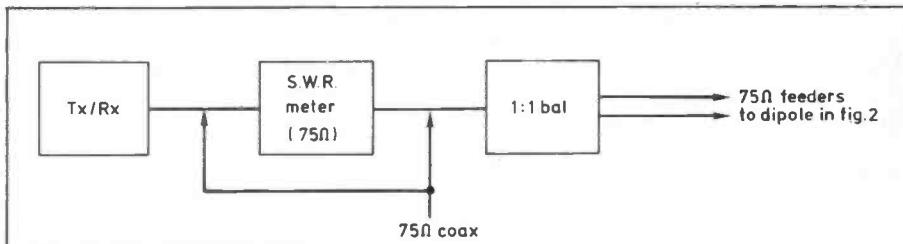

FIG. 4A. Set up for initial tuning
**Table 2** gives the dimensions to cut each dipole element, to start with a certain amount of pruning of each dipole will be needed, cutting an equal amount from either end of the dipole in question. Observations should be made of the VSWR at various frequencies across each band. Aim at getting the VSWR down to its lowest at your favourite part of the band ie. Phone or CW. The reason for the dipoles not working out at the exact, calculated lengths, is due to capacitance between the various dipoles and nearby objects. Always put the aerial back to its full height before attempting to measure VSWR as the height of the aerial above ground has a significant effect on VSWR. Fig. 4A shows a diagram of the feed arrangement used during setting up. However once set up I prefer to use a balanced output ATU, replacing the 1:1 balun with an ATU (See Fig. 4B). This helps to reduce any harmonics present in the transmitter output being fed to the aerial system. As this is a multiband aerial system, any harmonics present will be effectively radiated unless you do use some method of reduction of the harmonic level, so the ATU is really a must. This is of course true of any multiband aerial system!